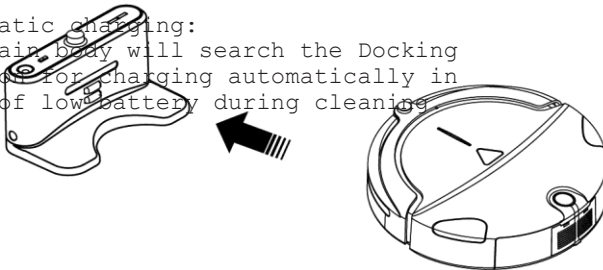

Figure 6
7. When you start the machine, if the power indicator flashes, it means the battery power is low; You need to charge the battery. (See Figure 6)
4. Open the bracket and the filter will appear. (Refer to Figure 6)